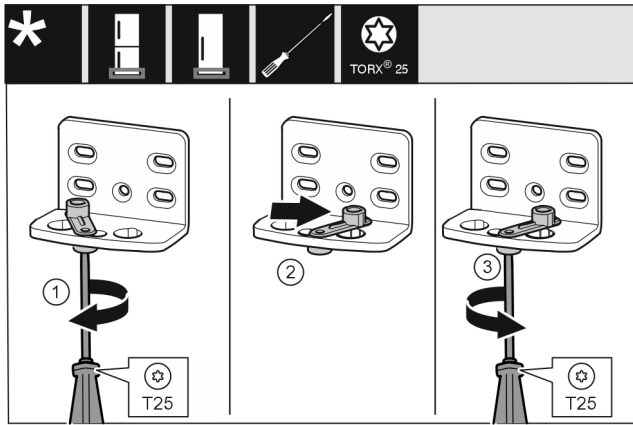

Fig. 13
- ▶ Loosen the screw using a T25 screwdriver. Fig. 13 (1)
- ▶ Lift the door closing aid and turn it 90° to the right in the hole. Fig. 13 (2)
- ▶ Tighten the screw using a T25 screwdriver. Fig. 13 (3)